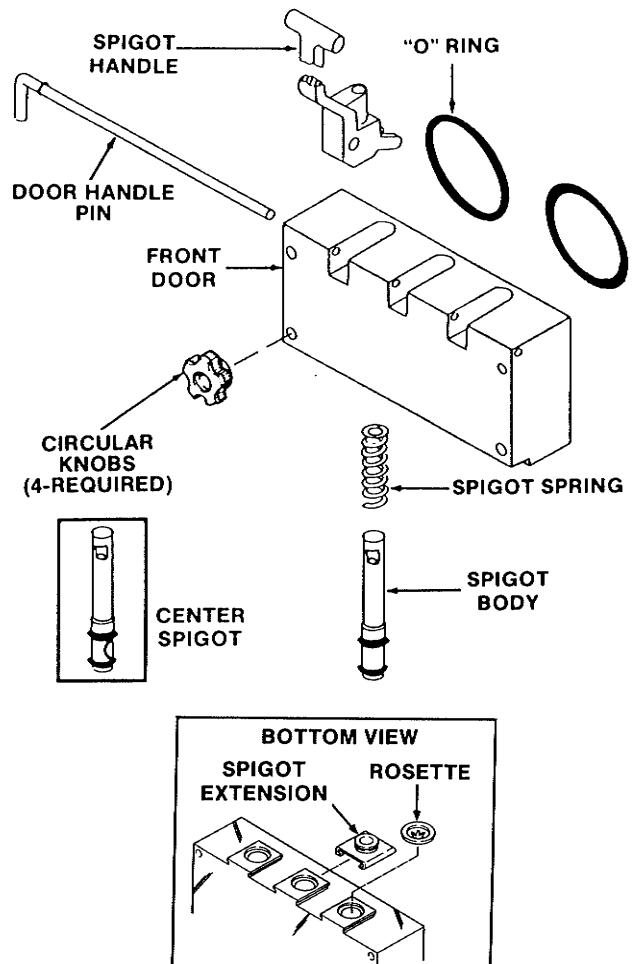

Figure 22. Removing Spigot
- C. Remove spigot extension adaptor or rosette. Pull the door handle pin out of the spigot handle. Push the spigot body through the bottom of the front door (Fig. 22). Remove the spigot body and spring.